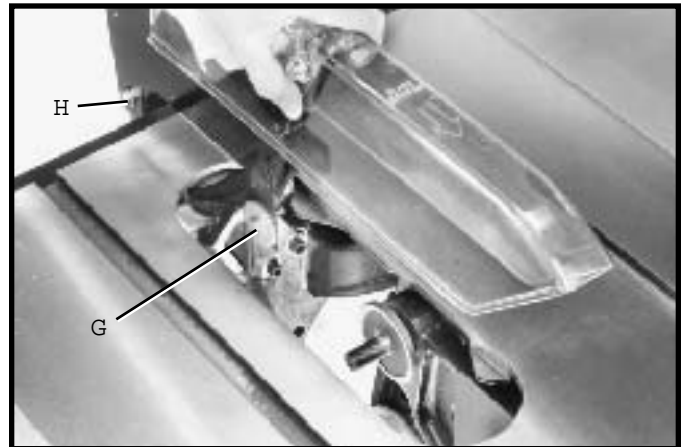
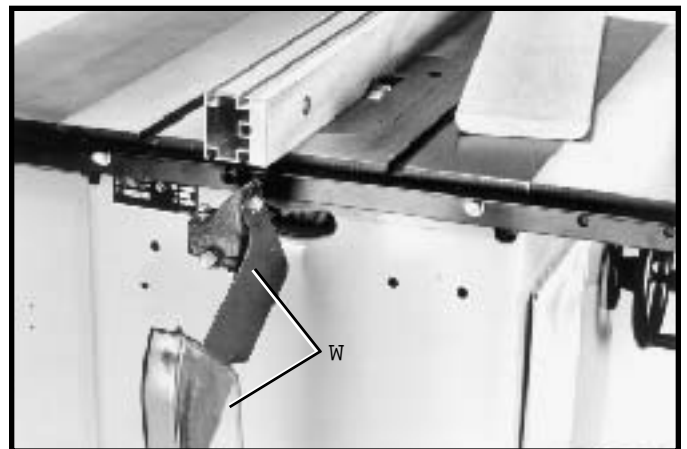

Fig. 114
Fig. 115
IMPORTANT: For certain cutting operations such as dadoing and moulding where you are not cutting completely through the workpiece, the blade guard and splitter assembly cannot be used. Simply loosen screws (G) and (H) Fig. 114. Lift up and swing blade guard and splitter assembly (W) Fig. 115, to the rear of the saw as shown in Fig. 115. **CAUTION:** Always return and fasten the blade guard and splitter assembly to its proper operating position for normal thru-sawing operations.